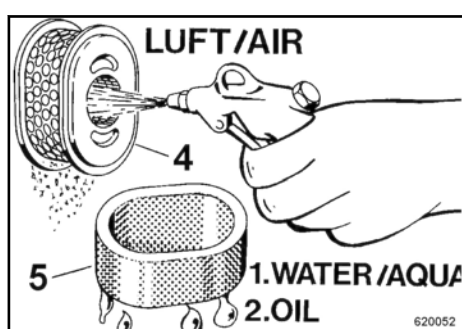

Fig. 39
Clean the paper insert (4) ↪ Fig. 39 carefully by light banging or blow it carefully out from inside to outside with dry, clean compressed air (max. 2 bar (29 psi)).